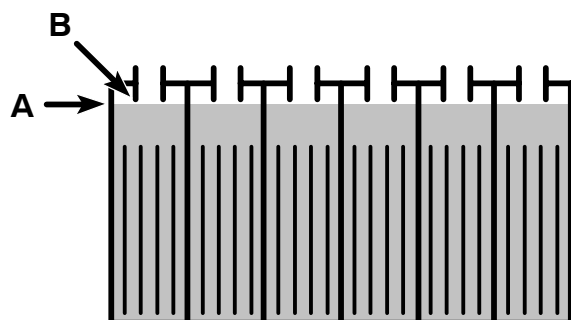

FIG. 31
- After charging, check the electrolyte level (A) again. The level should be approximately 0.38 in / 1 cm from the bottom of the fill-port (B) (Figure 31). Add distilled water if needed. **DO NOT OVERFILL.**